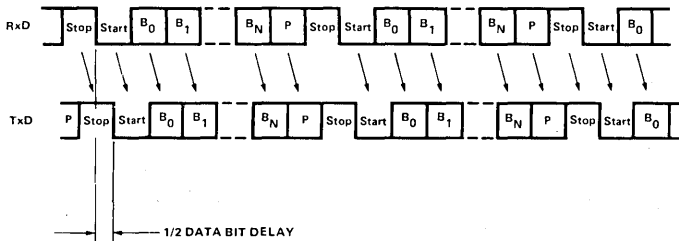

Figure 4-6. ECHO MODE TIMING
4.1.6 Echo Mode Timing (Figure 4-6)